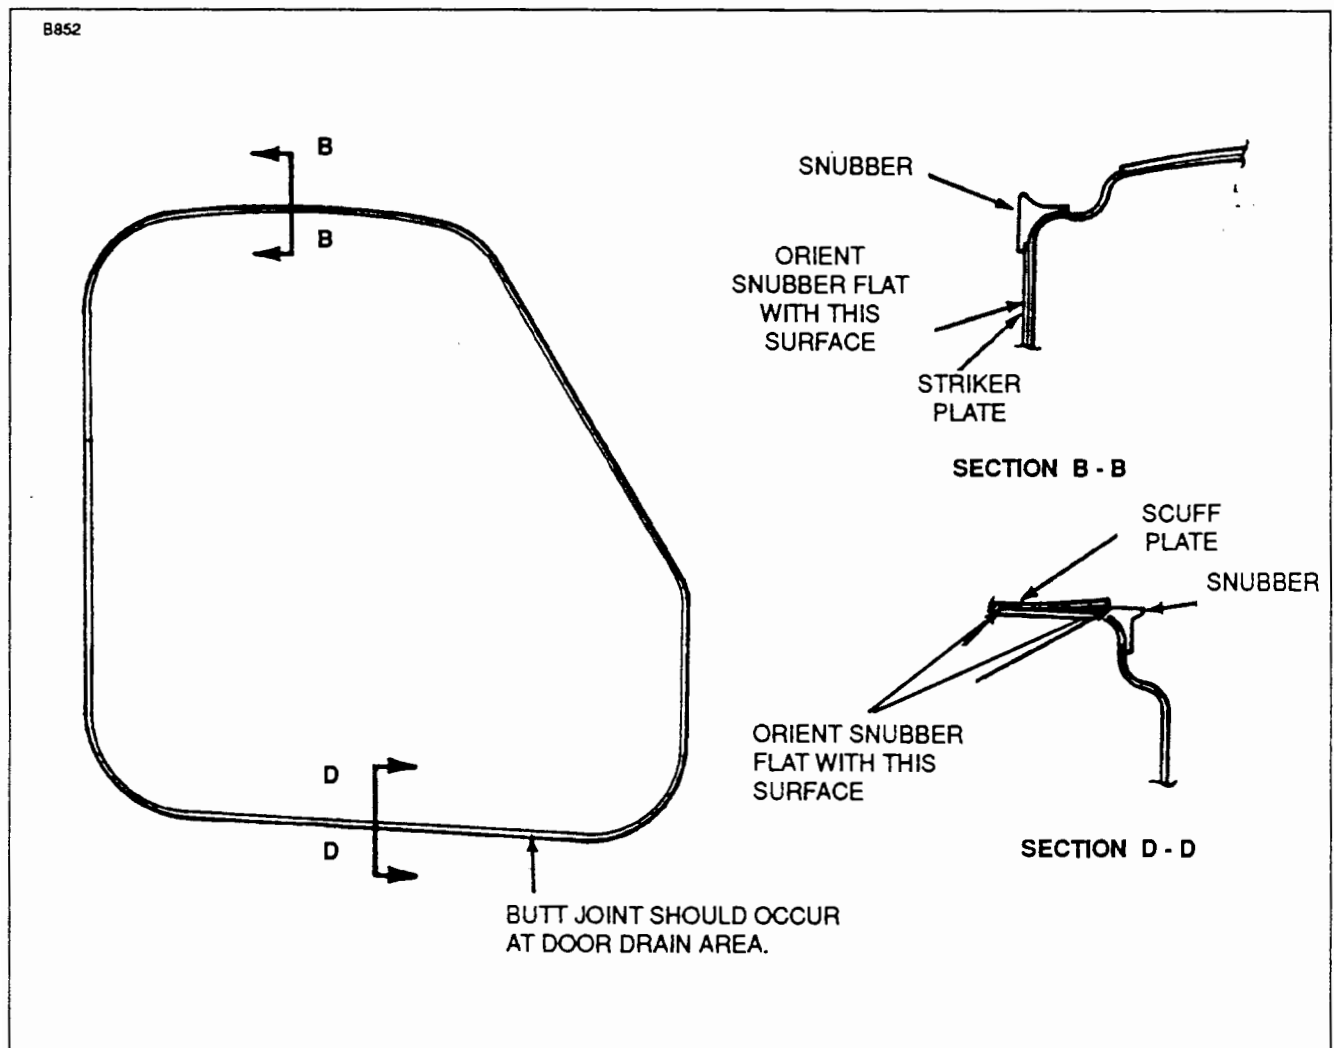

Figure 52-1a. Door Snubber Installation
REMOVAL AND INSTALLATION OF DOOR SEAL SNUBBERS. (Refer to Figure 52-1a.)
- G. With reference to Figure 52-1a, make sure the seal is properly aligned before allowing the surfaces to come in contact. The seal should not be stretched or pulled such that the cross section of the seal is reduced or distorted. Make sure the door closes properly and that an airtight seal is produced.